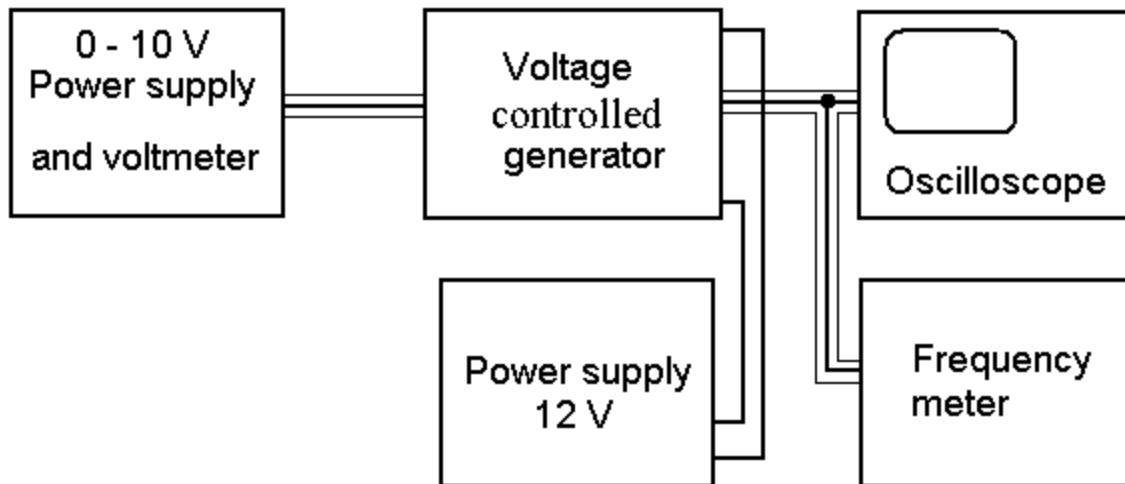

Fig. 1. Circuit for testing the voltage controlled generator.
1. Build the circuit of Fig. 1 and test the voltage controlled generator. Measure the dependence of the output frequency on the input voltage. Draw this dependence in your report.